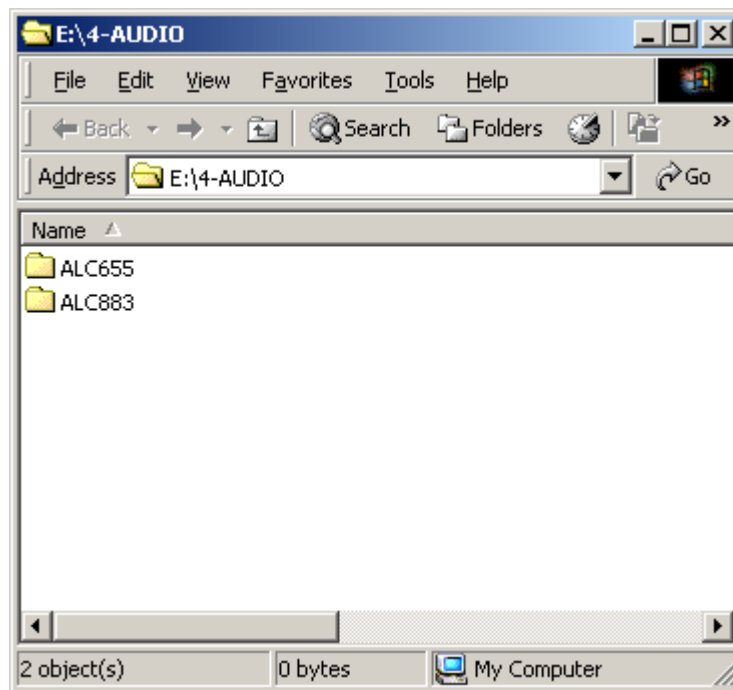

Figure 7-26: Select the Audio CODEC
Step 2: A new window opens (**Figure 7-26**).